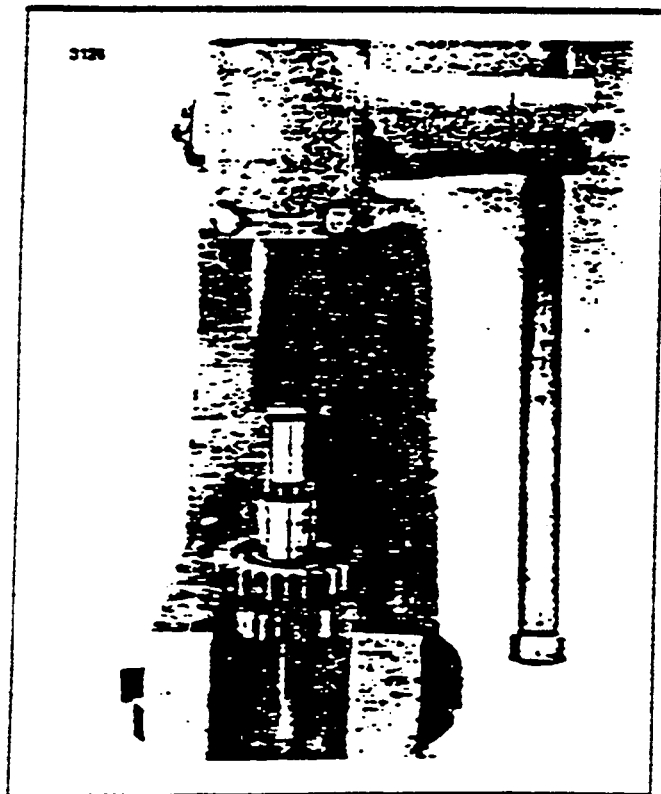

Figure 1. Pressing Off 1st Gear
4. See Figure 1. Place the mainshaft on an arbor press. Support the shaft assembly at the underside of first gear and press against the shaft. Press the mainshaft free of first gear and bearing inner race.